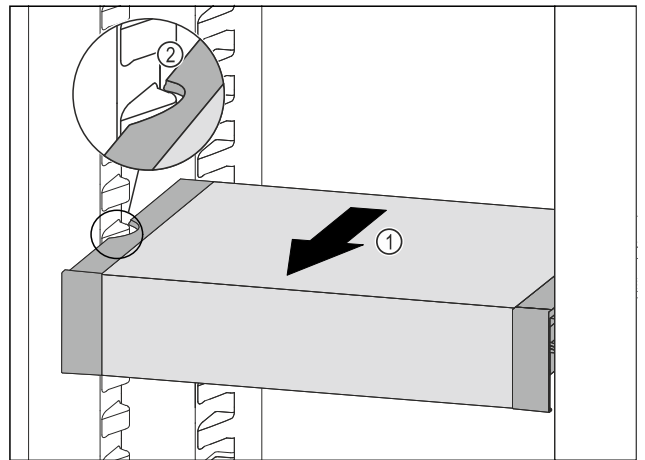

Fig. 113
- ▶ Pull VarioSafe forwards Fig. 113 (1) until the recesses in the side of the VarioSafe are at the level of the support rib in the fridge section. Fig. 113 (2)